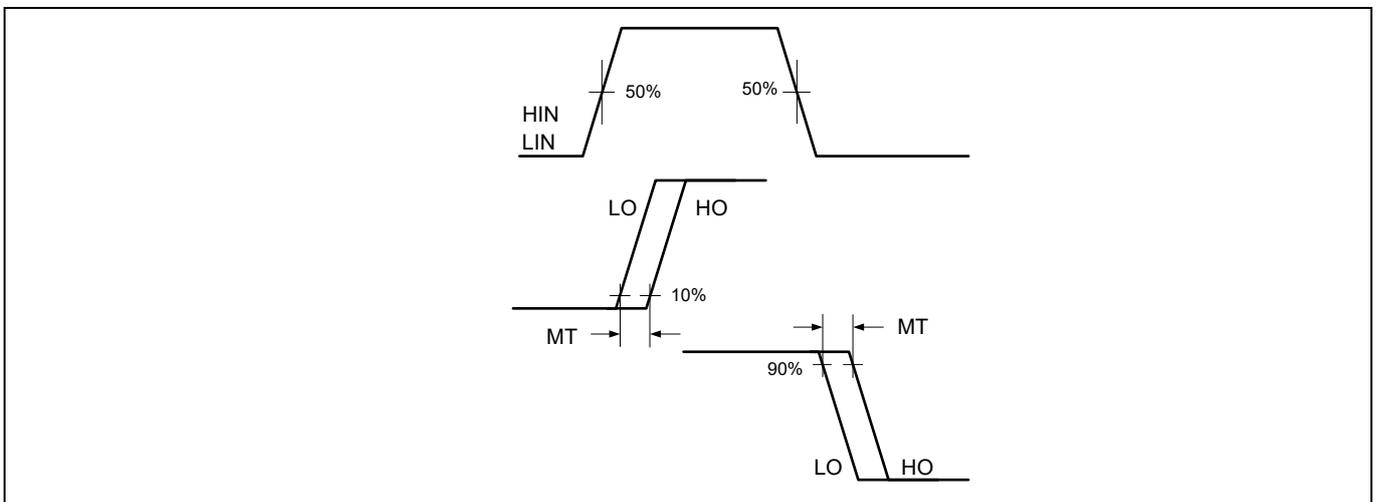

Figure 5 Delay matching waveform definition
IGI60L2727B1M is designed with propagation delay matching circuitry. With this feature, the integrated gate driver IC's response at the output to a signal at the input requires approximately the same time duration (i.e., t_{ON} , t_{OFF}) for both the low-side channels and the high-side channels as shown in **Figure 5**. The maximum difference is specified by the delay matching parameter (MT). The propagation turn-on delay (t_{ON}) of the integrated gate driver is matched to the propagation turn-off delay (t_{OFF}).